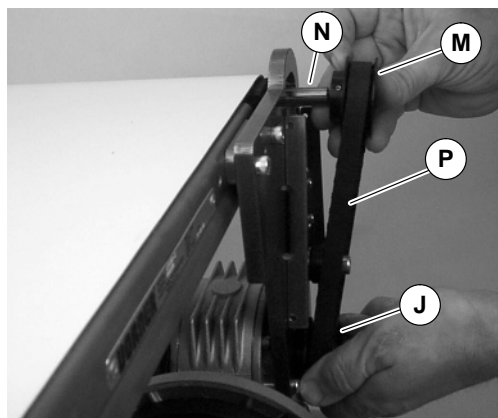

Figure 8
5. Install key (N of Figure 8).